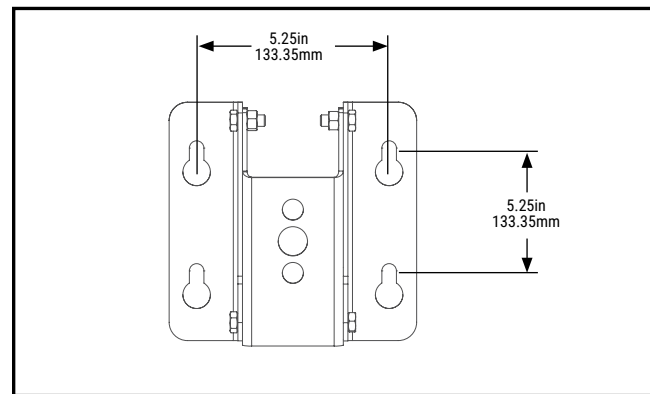

Figure 1.
1. Drill mounting holes to the intended substrate per hardware (from others) and Figure 1.